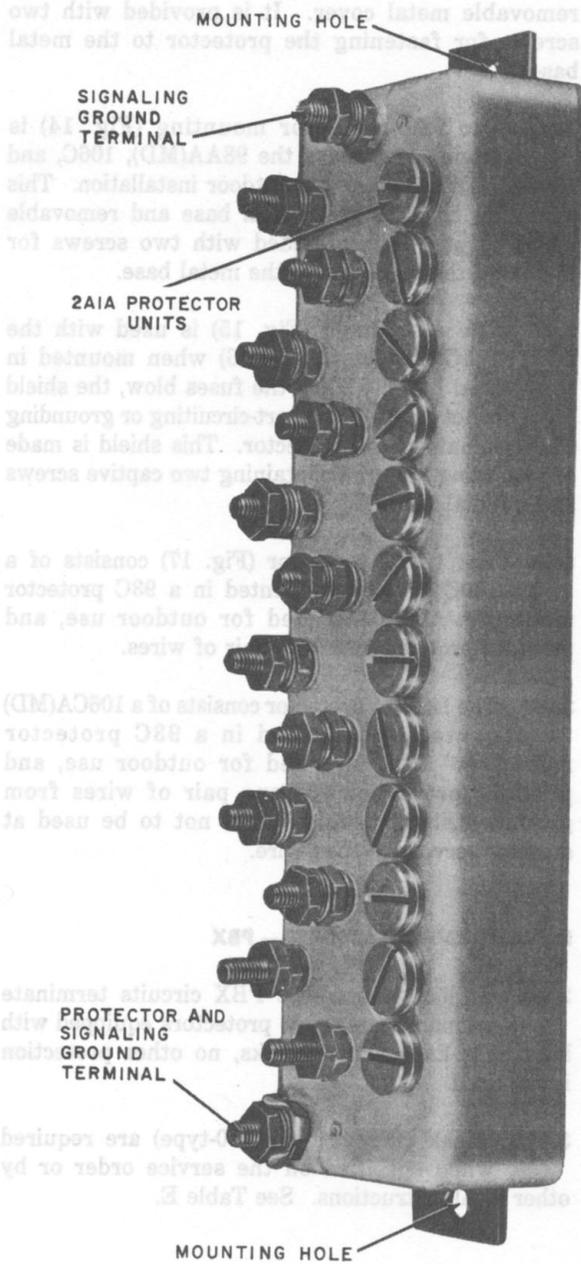

Fig. 5—117B Protector (Indoor)
**2.02** The 116C (Fig. 4) outdoor and 117B (Fig. 5) indoor protectors provide protection for 6-pair multiple drop wire extending from metal sheath cable at the customer's premises.